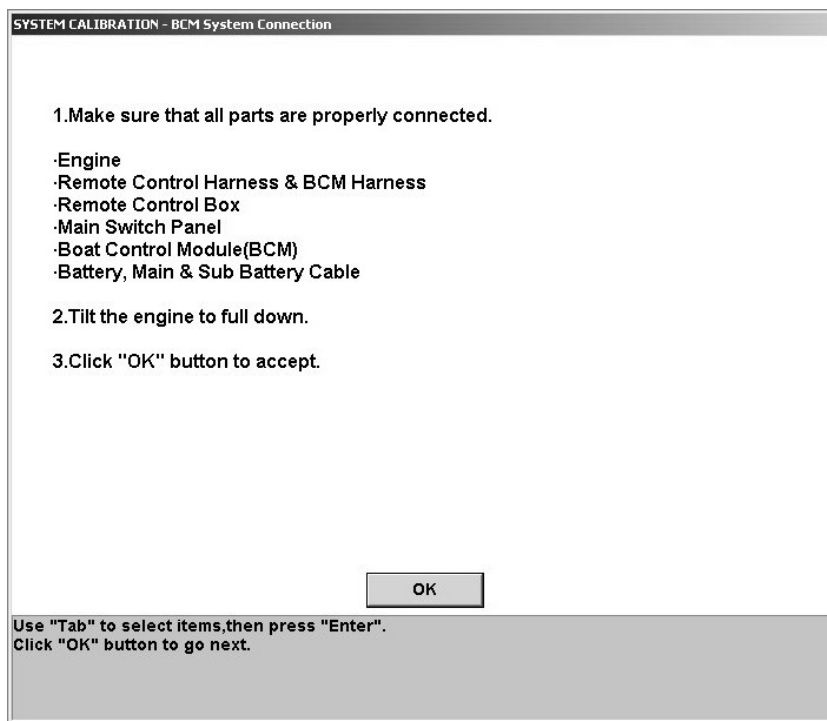

Fig.87
2. The following window (Fig.87) appears. Click the “OK” button and proceed to the next step (“Enter” key on the keyboard).